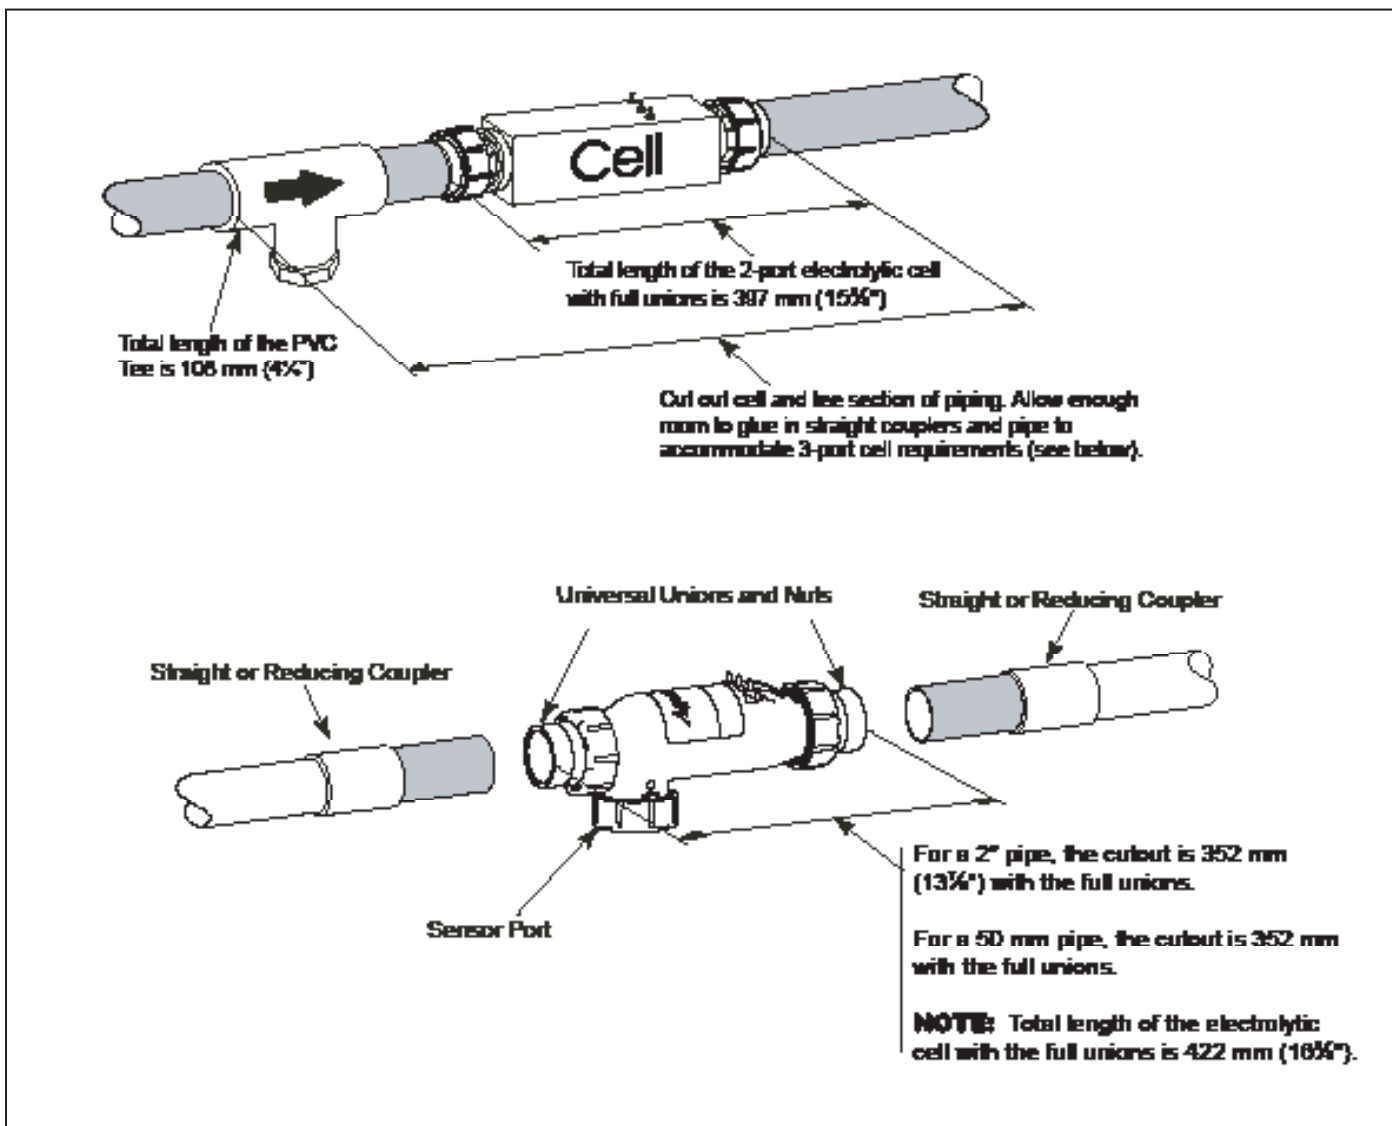

Figure 11. Pipe Cutout (Option 3 - Replace 2-Port Cell and Piping and treat as New Installation)
- Mount as shown in Figure 11. This will result in the most reliable operation.
- (1) In one of the available ports in the electrolytic cell
- (2) In the same line prior to the cell with no valves or diverters between the flow/temp/salinity sensor and cell.
- Cut out section of pipe that contains cell, sensor, and fittings. Glue straight couplers or reducing coupler onto open ends of piping. Make sure to leave enough length to fit in new cell (see Figure 11).